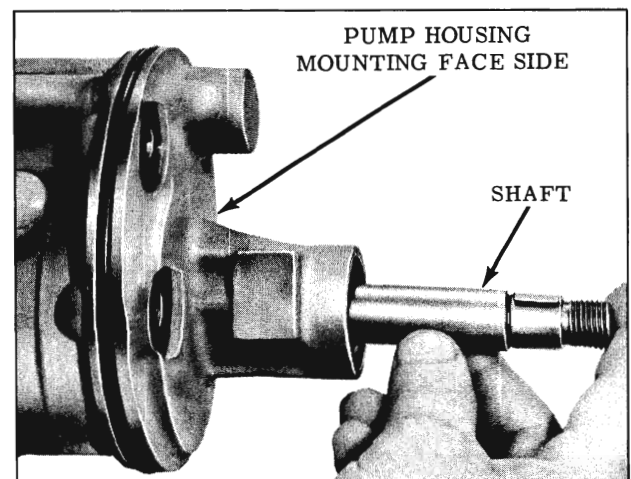

Fig. 4-238 Installing Shaft
1. Insert shaft at hub end of housing, spline end entering mounting face side. (Fig. 4-238)